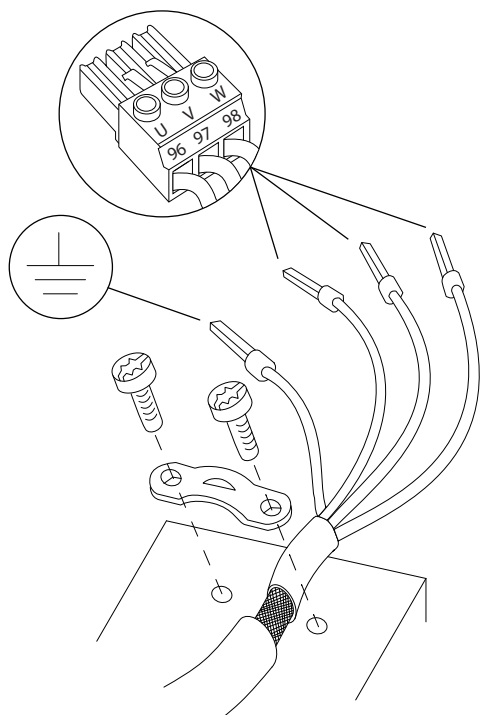

Figure 4.5 Motor Connection
- Connect the ground wire to the nearest grounding terminal in accordance with the grounding instructions provided in *chapter 4.3 Grounding*, see *Figure 4.5*.
- Connect the 3-phase motor wiring to terminals 96 (U), 97 (V) and 98 (W), see *Figure 4.5*.